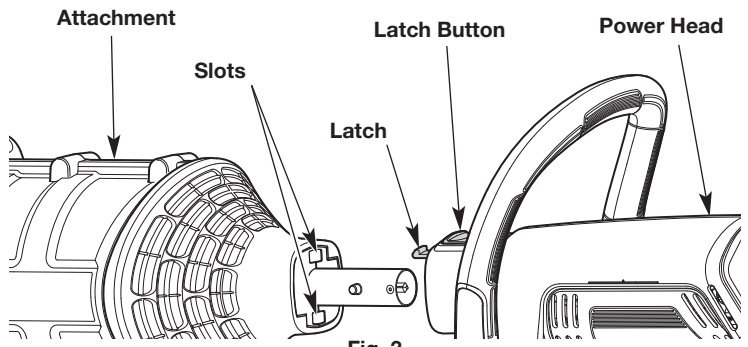
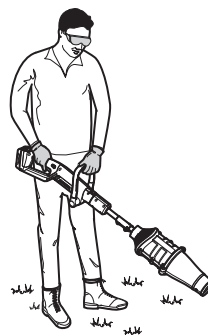

Fig. 3
Fig. 7
1. Align either of the two slots on the attachment with the latch on the power head (Fig. 3). If using the nozzle, make sure it faces forward when the unit is held in the operating position (Fig. 7).
2. Insert the attachment into the power head until the latch snaps into place (Fig. 3).
1. Push the latch button down firmly and pull the attachment straight out of the power head (Fig. 3).
- Stand in the operating position (Fig. 7).